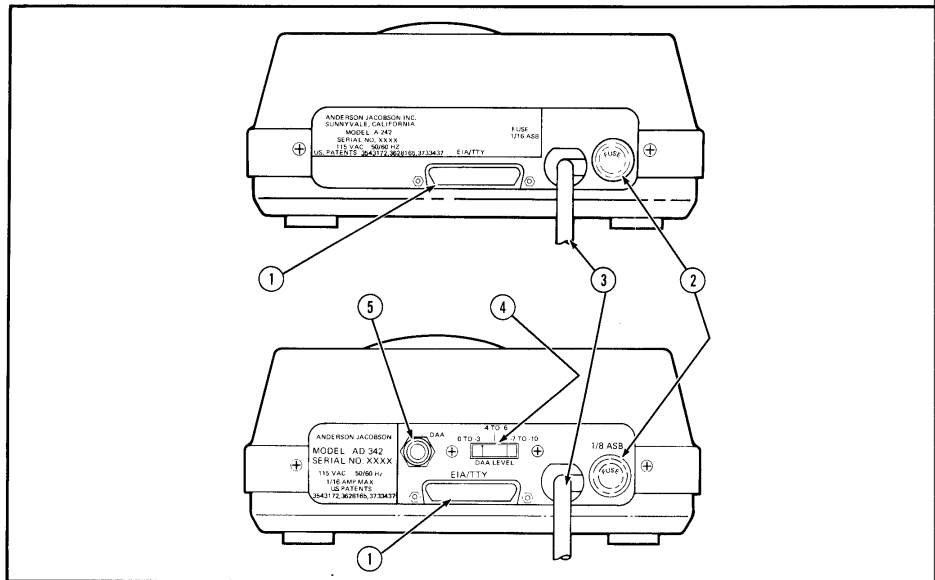

Figure 3-2 A 242 and AD 342 Rear Panel Configuration
5. Plug the other end of the C 30 DAA cable into the DAA jack located on the AD 342 rear panel (Figure 3-2).